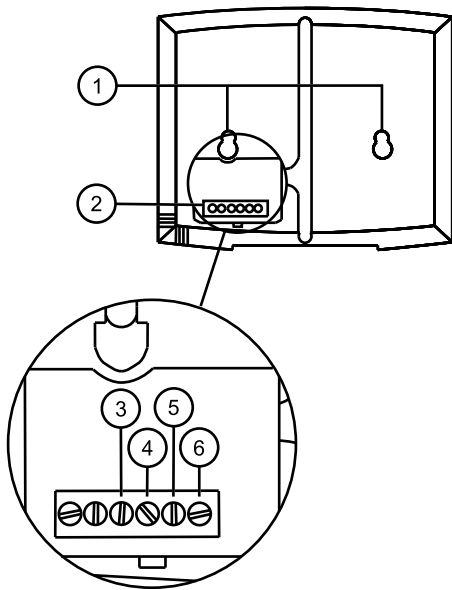

Fig. 12 Control panel wire connections
The control panel is delivered connected to the Corrigo control unit situated in the electrical connection box. Cable length is 10 m. In case the control panel needs to be detached from the signal cable it is possible to loosen the wires on the back of the control panel (figure 12).
If needed, drill two holes in the wall to hang the control panel (center to center: 60 mm) (pos.1, figure 12).